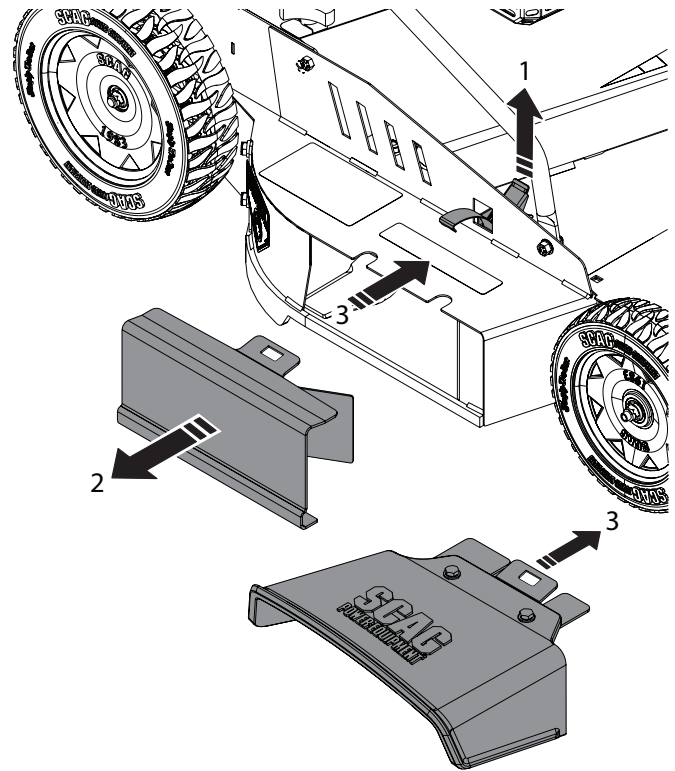

Figure 6-12. Side Discharge Conversion
3. Release the latch and remove the discharge block off plate. See Figure 6-12.